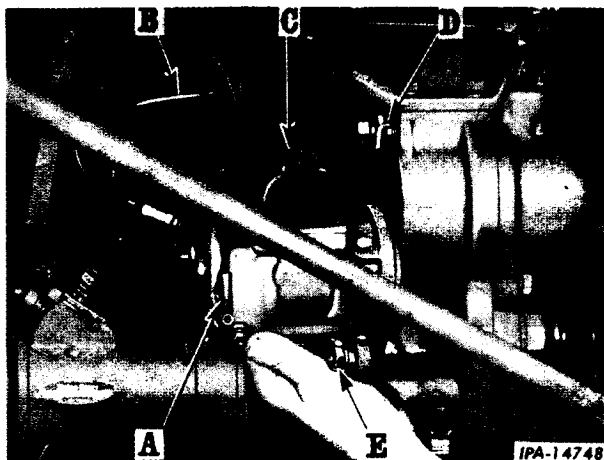

Fig. 2 - Removing the Magneto: A, Switch wire; B, Center cable; C, Coil cover; D and E, Retaining Capscrews and Washers.
2. Remove the cap screws and washers that secure the magneto to the engine crankcase (Fig. 2).